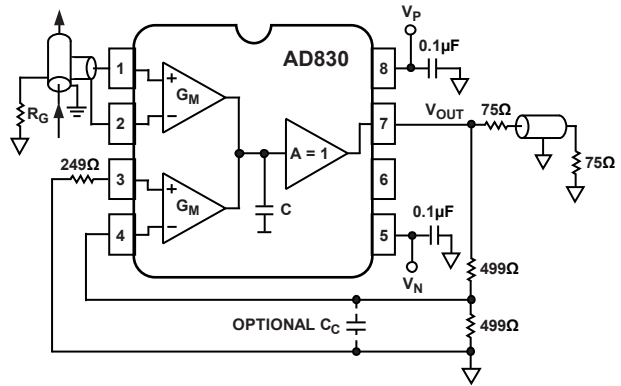

Figure 42. Cable Tap Amplifier
**Loop Through or Line Bridging Amplifier (Figure 42)**